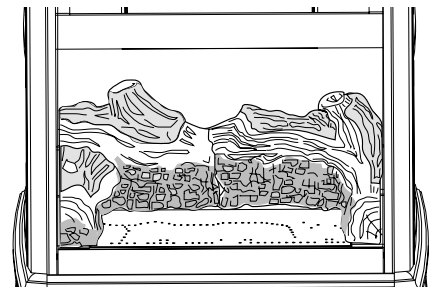

Figure 29. Middle Log and ember stones in place.
2. Locate the Middle Log as shown in fig. 29.
NOTE: Keep the ember stones 1/4" away from the edge of the Burner Skirt and Pilot Assembly. See fig. 29. All the ember stones do not have to be used.
2. **PILOT FLAME:** You can monitor the pilot flame through the opening at the upper left corner burner skirt, under the rear log. See fig. 29. The pilot flame should be steady - not lifting or floating. The flame should be blue in color around the pilot hood, with traces of yellow toward the outer edges.